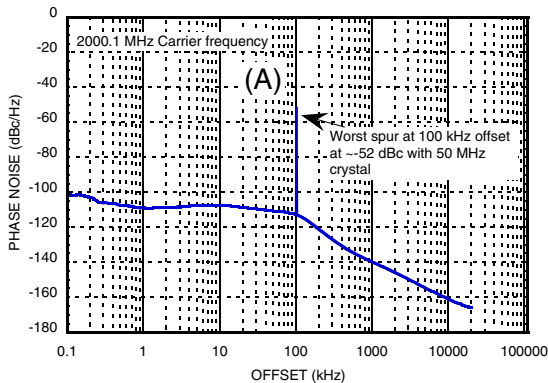
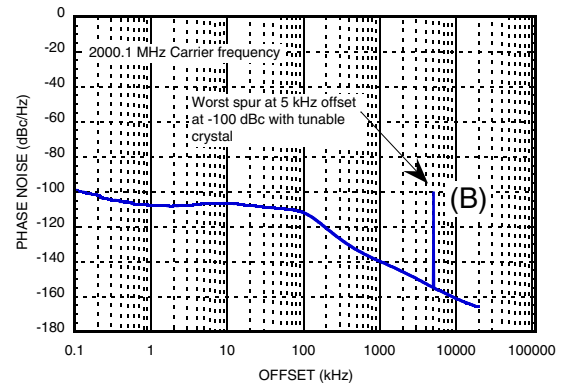
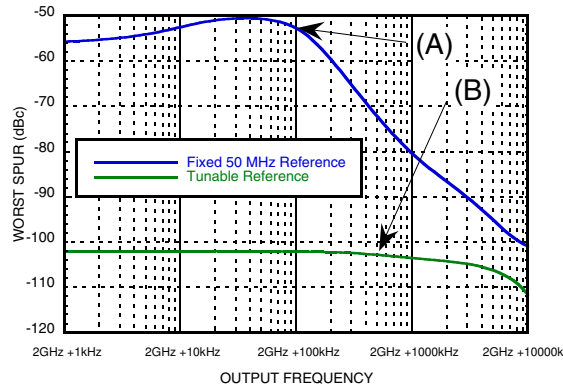

Figure 13. HMC830LP6GE Worst spur at any offset, fixed 50 MHz reference, output frequency = 2000.1 MHz
Figure 14. HMC830LP6GE worst spur at any offset, tunable reference (another HMC830LP6GE), output frequency = 2000.1 MHz
Figure 15. Largest observed spurious, at any offset, using a fixed 50 MHz reference source and a tunable reference source.
For example, Figure 13 shows the spectrum of a carrier operating at 2000.1 MHz with a 50 MHz fixed reference. This case is 100 kHz away from an Integer Boundary (50 MHz x 40). Worst case spurious can be observed at 100 kHz offset and about -52 dBc in magnitude.
Figure 14 shows the same HMC830LP6GE PLL VCO operating at the same 2000.1 MHz carrier frequency, using a tunable reference at 47.5 MHz generated by a second HMC830LP6GE. Worst case spurious in this case can be observed at 5 MHz offset and about -100 dBc in magnitude.
The results of Figure 13 and Figure 14 show that the tunable reference source achieves 50 dB better spurious performance, while maintaining essentially the same phase noise performance.
Many spurious measurements, such as the ones in Figure 13 and Figure 14 can be summarized into a single plot of worst case spurious at any offset vs. carrier frequency as shown in Figure 15. A log frequency display relative to the 2000 MHz fixed reference Integer Boundary was used to emphasize the importance of the loop bandwidth on spurious performance of the fixed reference case. This technique clearly shows the logarithmic roll-off of the worst case spurious when operating near the Integer Boundary. In this case the loop filter bandwidth of the HMC830LP6GE was 100 kHz.
For example worst case spurious operating at 2000.1 MHz (point (A)) in Figure 13 with a fixed 50 MHz reference) is represented by a single point in Figure 15 (point (A)) on the blue curve. Similarly, worst case spurious from Figure 14 with variable reference, operating at 2000.1 MHz is represented by a single point in Figure 15 (point (B)) on the green curve.
The plot in Figure 15 is generated by tuning the carrier frequency away from Integer Boundary and recording the worst case spurious, at any offset, at each operating frequency. Figure 15 shows that the worst case spurious for the 50 MHz fixed reference case, is nearly constant between -51 dBc and -55 dBc when operating with a carrier frequency less than 100 kHz from the Integer Boundary (blue curve). It also shows that the worst case spurious rolls off at about 25 dB/decade relative to 1 loop bandwidth. For example, at an operating frequency of 2001 MHz (equivalent to 10 loop bandwidths offset) worst case spurious is -80 dBc. Similarly, at an operating frequency of 2010 MHz (equivalent to 100 loop bandwidths) worst case spurious is -100 dBc.
In contrast, the green curve of Figure 15 shows that the worst case spurious over the same operating frequency range, when using an HMC830LP6GE tunable reference, is below -100 dBc at all operating frequencies!